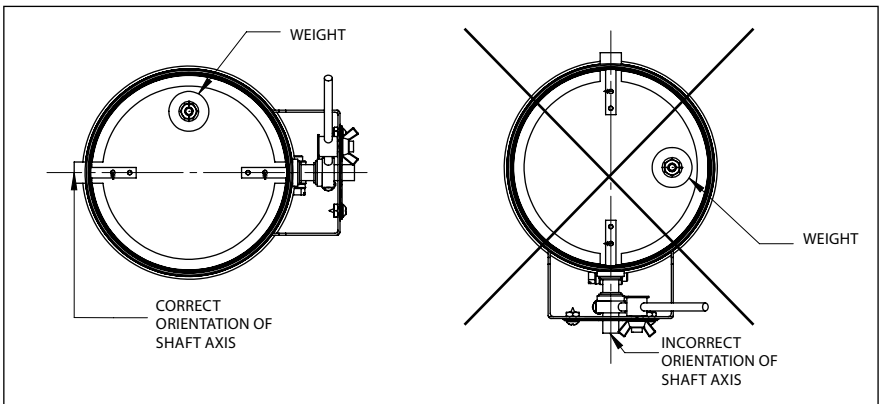
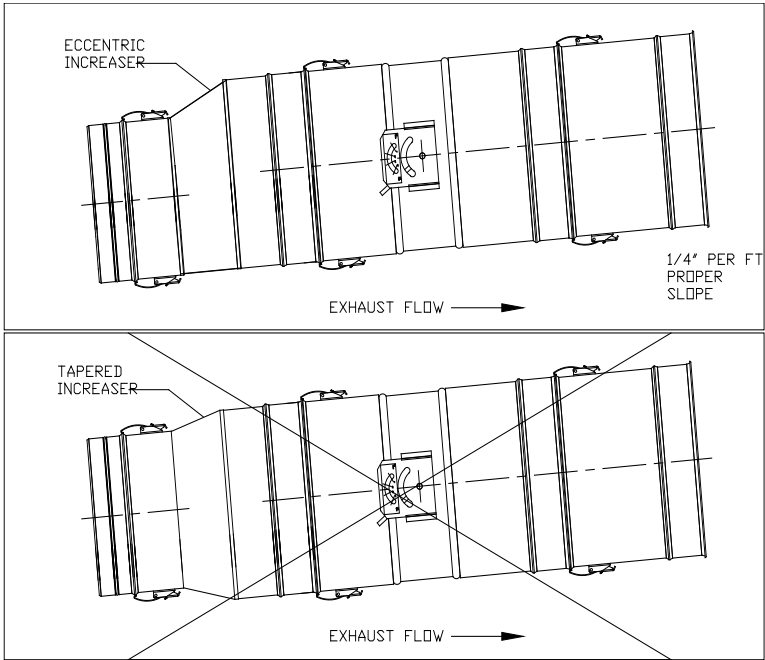
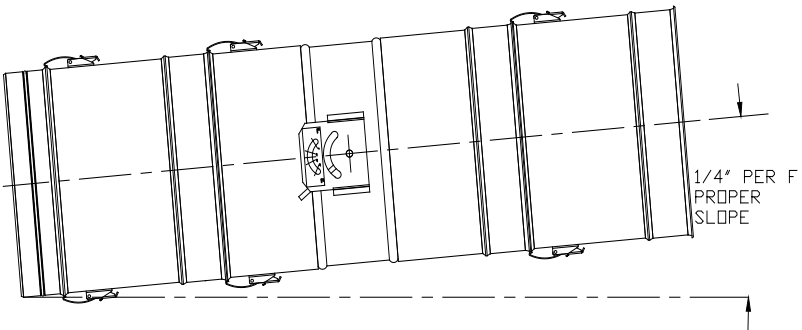

Figure 1
Figure 2
Figure 3
- If the Damper is going to be installed horizontally, make sure the Damper Axis is horizontal (**Fig.1**). Make sure the venting is pitched towards the boiler by a value of $\frac{1}{4}''$
drop for every foot of vent length (**Fig.2** and **Fig.3**) for proper condensate management. The weight on the damper is a fail safe to make certain that the damper will be open in the event of failure. Ensure that the weight is at the top of the damper plate when closed in the Horizontal (**Fig.1**).
Horizontal Installation (**Fig.1, Fig.2, Fig.3**)
- To prevent the build up of condensation in horizontal installations, it is required to use an Eccentric Increaser rather than Tapered Increasers at the male connection of the damper (**Fig.2**).